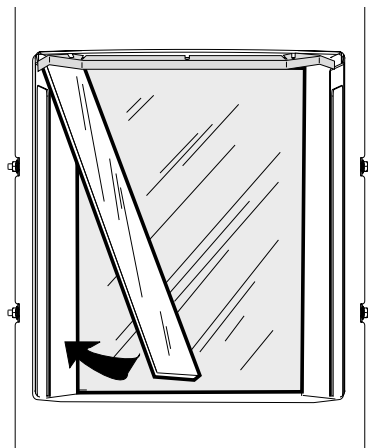

Figure 26a. Install Side Glass Panels.
- Orient the side panels, smooth side out, and sliding each behind the retainer wings. See Fig. 26a.